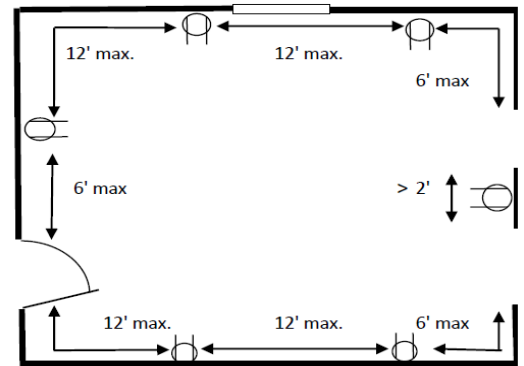

Figure 3
- General use receptacles along walls shall be provided for all unbroken wall spaces over 2 feet wide; Receptacles shall be located so that no point on the floor line is more than 6 feet, measured horizontally from an outlet. *See fig. 3*